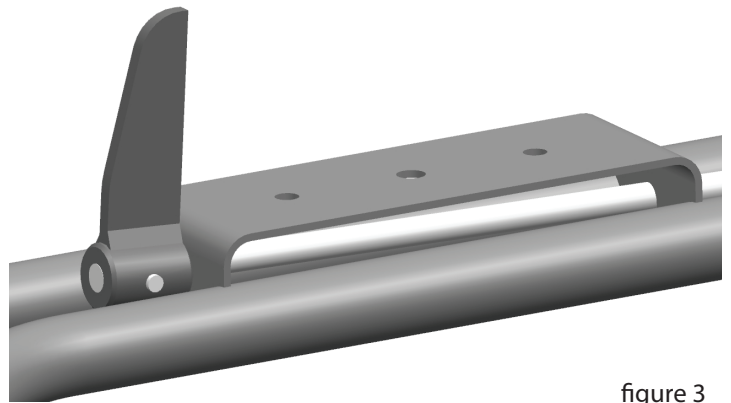
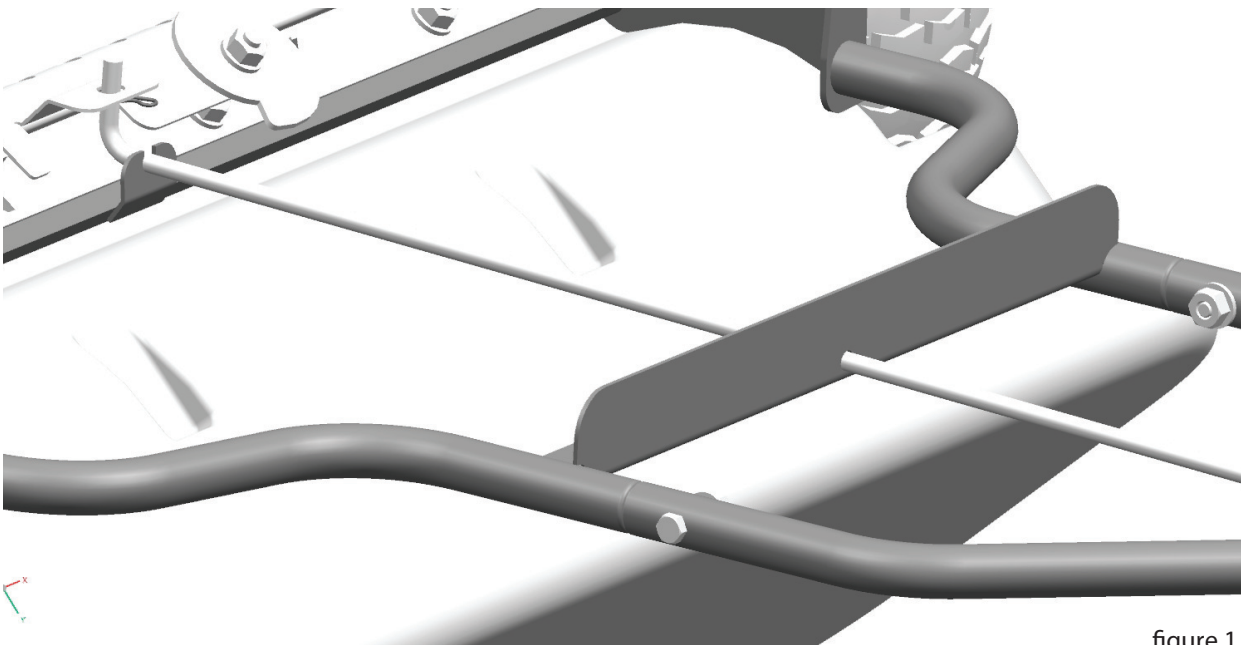

figure 3
figure 1
Step 2: Assemble upper handle assembly to main frame (see figure 1), simultaneously insert rod into upper control handle as shown (see figure 3).